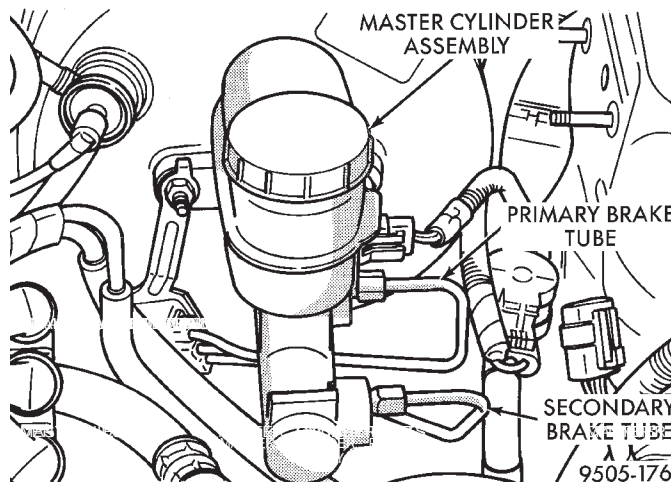
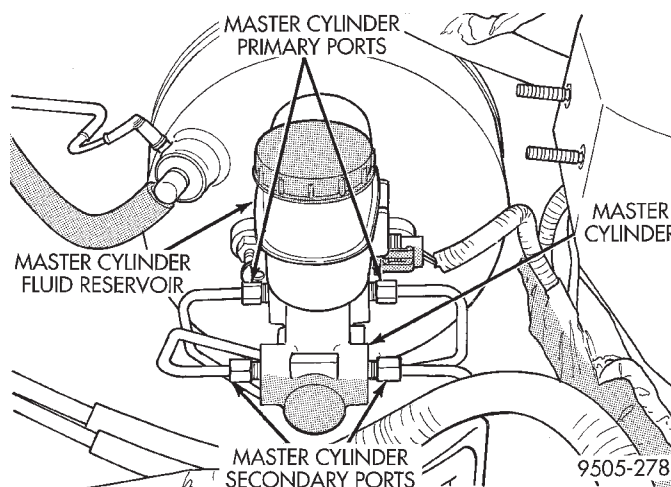

**Fig. 108 Primary And Secondary Brake Tubes With Antilock Brakes**
**Fig. 109 Primary And Secondary Brake Tubes Without Antilock Brakes**
(9) Remove the primary and secondary brake tubes (Fig. 108) or (Fig. 109) from the master cylinder.
(11) Install the primary and secondary brake tubes (Fig. 108) in the outlet ports of the master cylinder. Tighten the tube nuts to a torque of 17 N·m (145 in. lbs.).